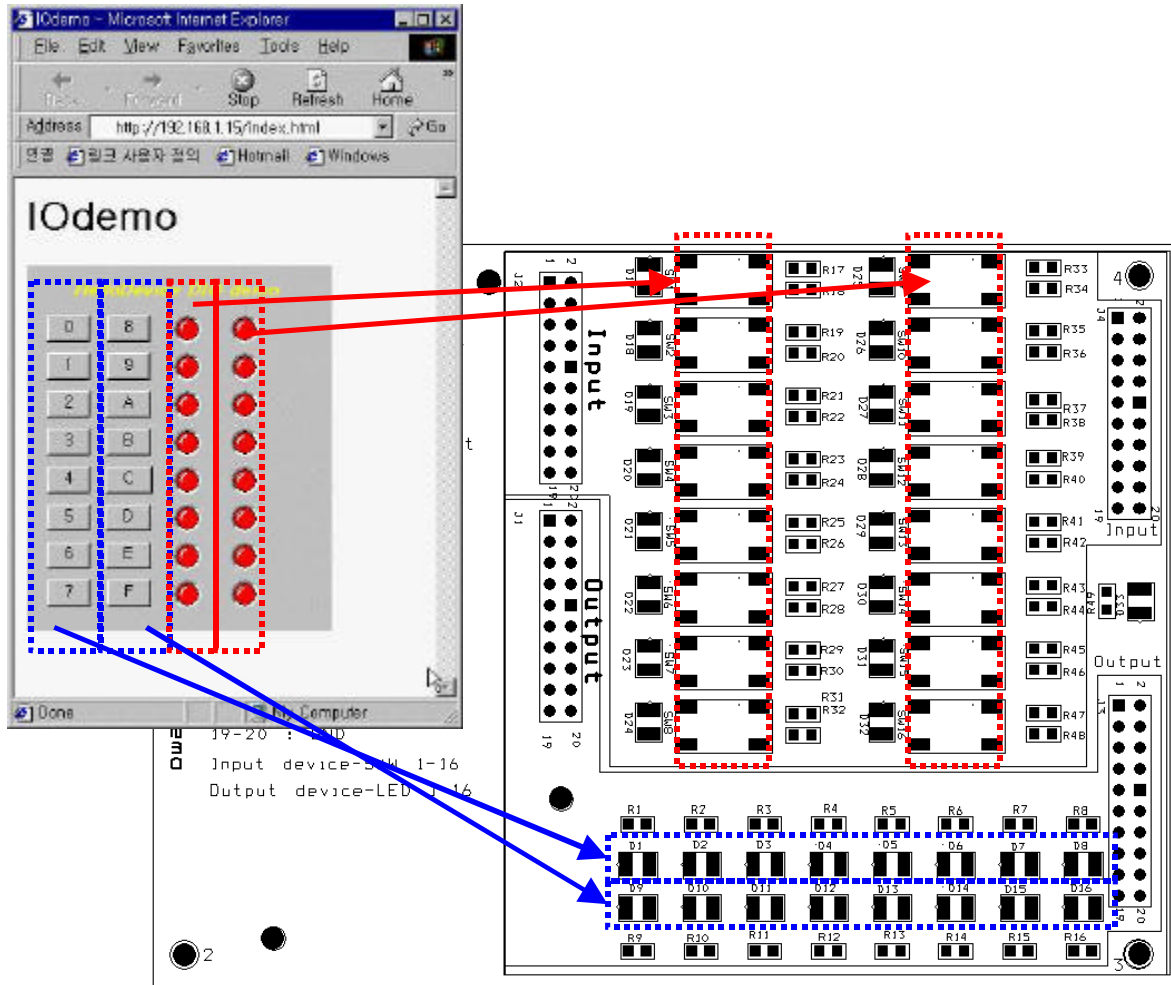

Figure 5.12. Relationship between the digital I/O demo screen and Demo Board
(2) Build and upload the Web files in the “IODemo” folder. Upload the Web page to the HelloDevice by following the steps described in the Chapter 5.1. Select the “IODemo” folder that contains the Web files, instead of the “FirstDemo” folder.
(3) When uploading is completed, run the Web browser and connect to the <http://192.168.1.15/index.html>. The following I/O demo Web page will appear. This screen matches the switches and LED's on the demo board. Switch and LED mapping is described in Figure 5.12.